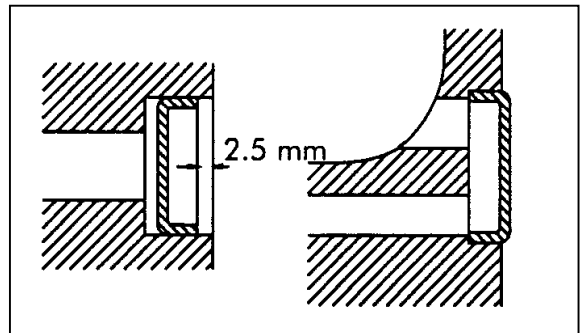

Fig.21 Press the cup into position.
4. Press the cup into position (**Fig.21**).